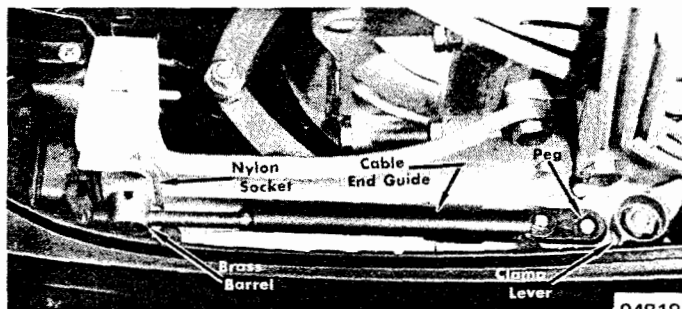

Figure 12. Shift Cable Brass Barrel Positioned in Nylon Socket
4. Place SHIFT cable end guide over peg and secure brass barrel in recess without disturbing neutral setting. (Figures 12 and 13 are typical.)